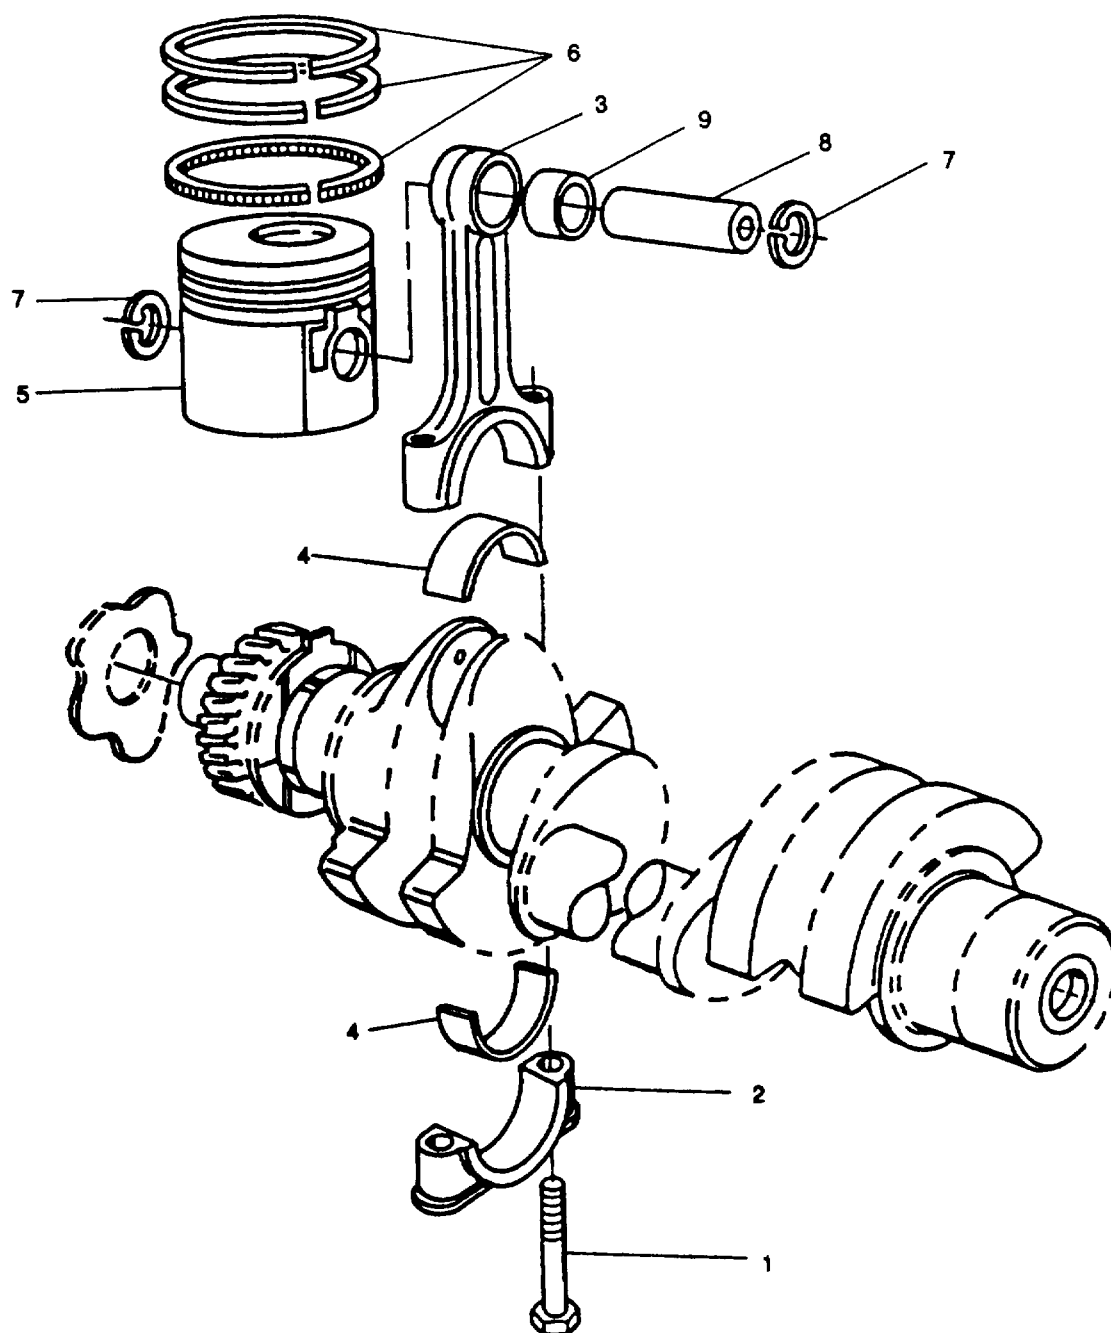

FIGURE 3-36. Piston and Connecting Rod Assemblies
- d. Rotate crankshaft as necessary to gain access to connecting rod bearing cap capscrews (1, FIGURE 3-36).
- b. Clean piston (5, FIGURE 3-36) by removing all traces of carbon from both upper and underside of crown and ring grooves.
- c. Check for correct gap clearance. Refer to TABLE 3-6, with piston rings (6) in an unworn section of cylinder barrel.
- d. Clean connecting rod (3).
- e. Check bushing (9) for wear. Replace if worn.
Lay piston rings (6, FIGURE 3-36) out in order of removal to aid in installation.
If necessary, separate each bearing cap (2, FIGURE 3-36) and connecting rod (3) as it is installed. Do not mix bearing caps and connecting rods.
- b. If damaged, install new connecting rod big end bearing shells (4, FIGURE 3-36) ensuring they are correctly located in both connecting rod and cap.
- c. Stagger piston ring (6) gaps so each ring gap is set at 90 degrees to adjacent rings and 45 degrees from piston pin (8) axis.
- h. Install two bolts (1) and tighten them to 222 in-lbs (25 Nm).